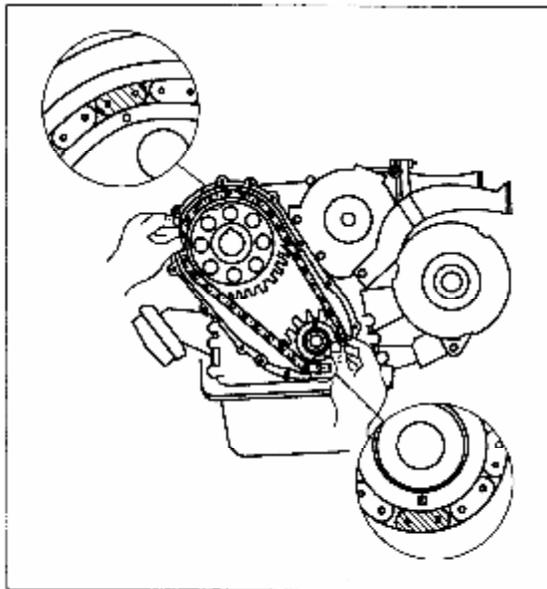

Figure 3-46 Installation of Sprocket and Chain
- (3) Put the timing chain onto the timing sprockets on camshaft and on crankshaft, and let the two bright white nodes on the chain respectively align with the depressions on two sprockets.
- (4) Let key notches on two sprockets respectively align with the aligning keys on crankshaft and camshaft, and then install the two sprockets and timing chains evenly and simultaneously (see Figure 3-46).